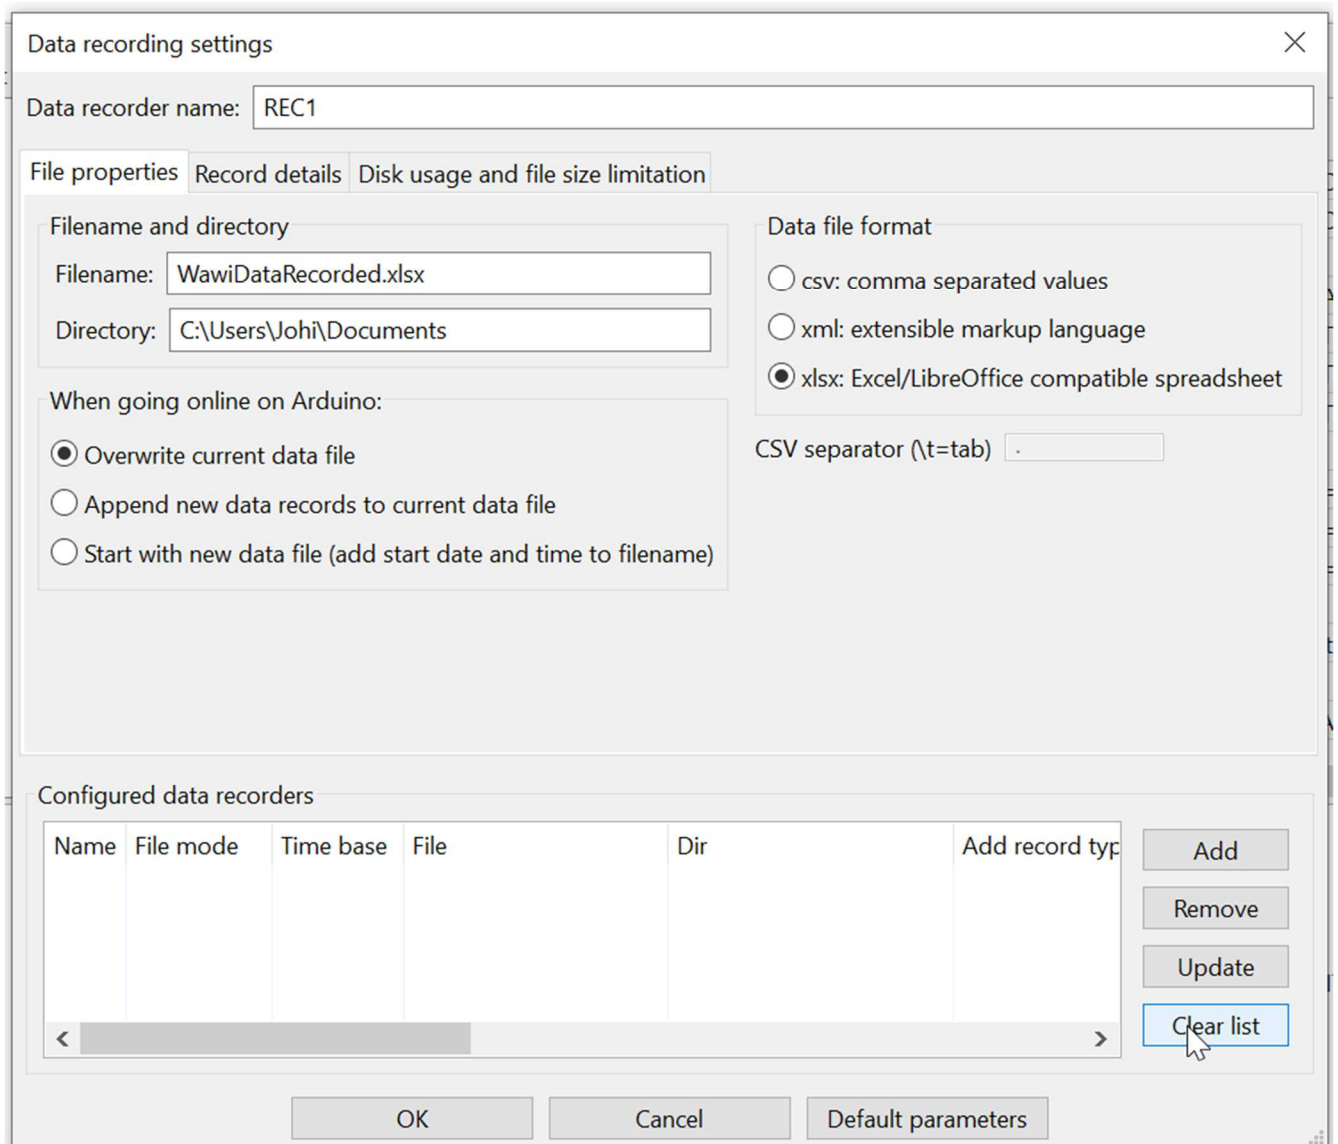

Fig. 3.11. Creating a new data recorder, XLSX file format and overwrite mode.
- ✓ Fill in the fields as indicated in fig. 3.11: